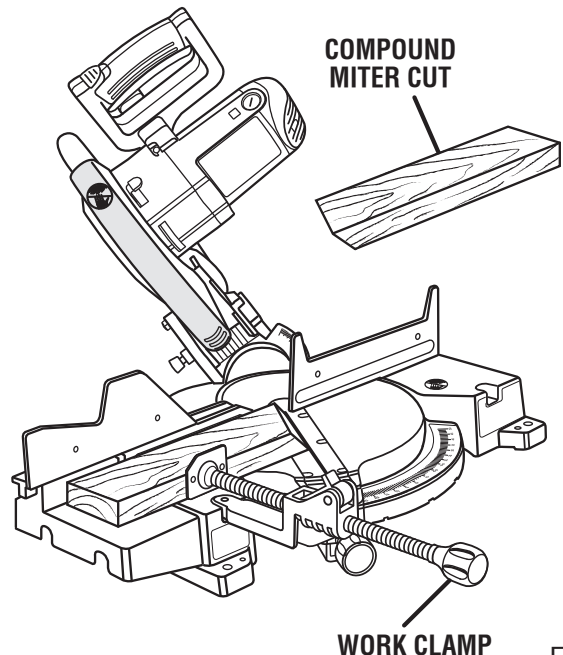

Fig. 30
- Grasp the stock firmly with one hand and secure it against the fence. Use the optional work clamp or a C-clamp to secure the workpiece when possible. See Figure 30.
- Grasp the stock firmly with one hand and secure it against the fence. Use the optional work clamp or a C-clamp to secure the workpiece when possible. *See Figure 30.*
- Slowly lower the blade into and through the workpiece. *See Figures 30 - 31.*